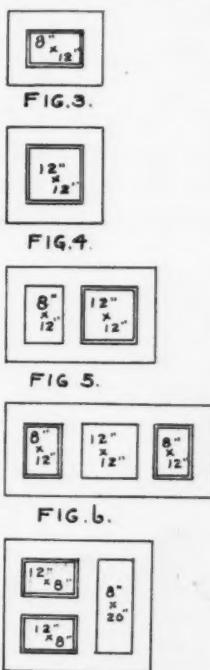

FIG. 7.
AT THE conclusion of the last article, we finished with the different plans; we will now take up the sections and elevations. At Fig. 7, (A) and (B) is shown two different sections. At (A) we have the section of the side wall, which shows the wall from the basement to top of chimney;
Fig. 7 is another form with ventilating flue 8 by 20. Chimneys do not necessarily need to be after these particular patterns, but to be right should have an adequate flue for ventilation purposes, a flue exclusively for the heater and one for the stoves. Too much economy in building flues is detrimental to the heating and ventilating proposition.